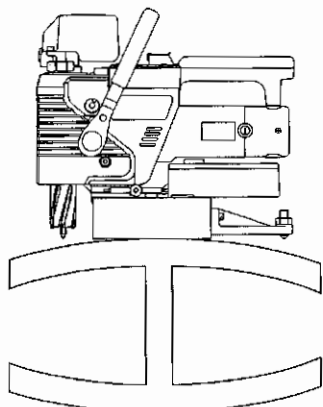

Fig. 4
- Since the surfaces of both sides of H-beam is normally warped as shown in Fig. 4, the magnet should be placed parallel to the longer direction of the work piece to ensure good adhesion and safe job. Insecure magnetic adhesion is the cause of cutter damage and unexpected accidents.